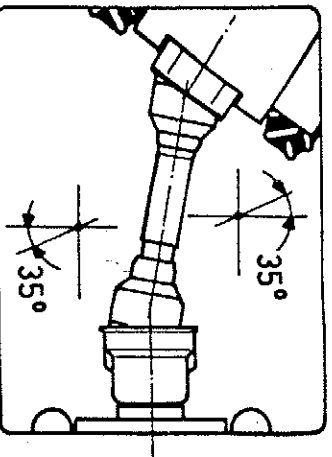

FIG. 2
36. Always disengage the power take-off when the Cardan (P.T.O.) shaft is at too wide an angle (it should never be more than 35° - Fig 2) and when it is not in use.